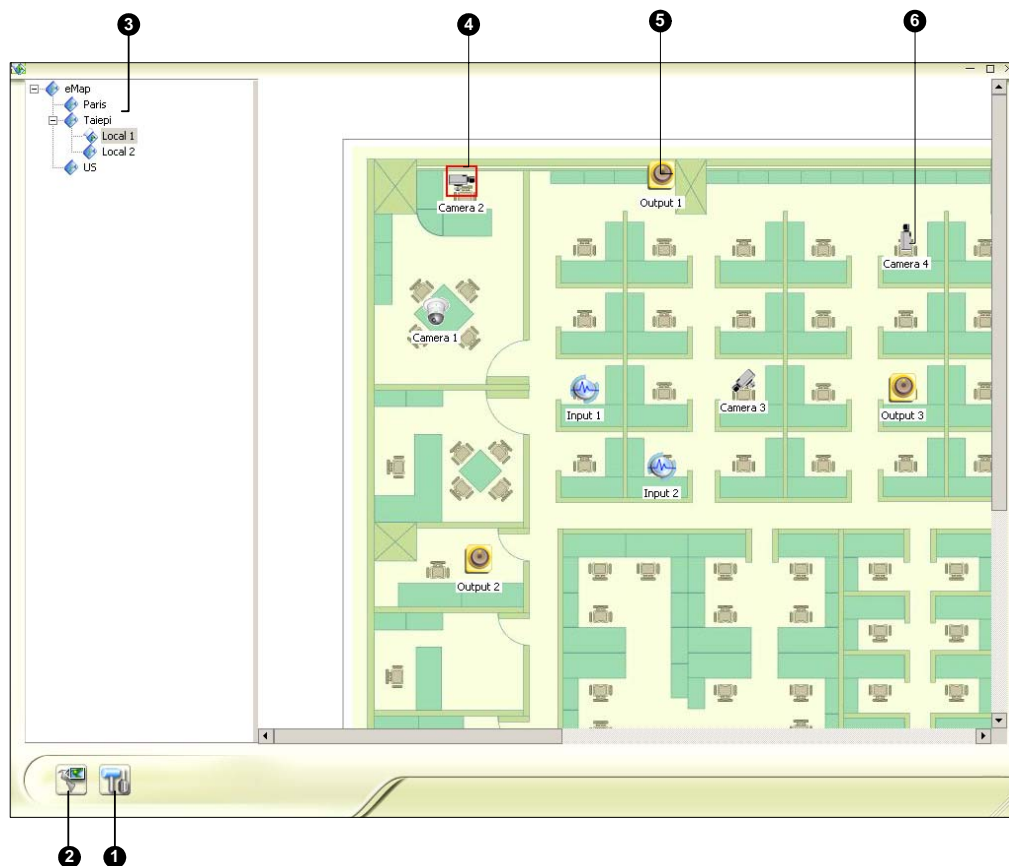

Figure 7-4 The E-Map Viewer Window
1. Click the **Popup Settings** button (No.1, Figure 7-4). Select desired cameras and input devices for the application, and specify **Dwell Time** for the interval between two pop-up maps.
2. Click the **Toggle Popup** button (No.2, Figure 7-4) to enable the function.